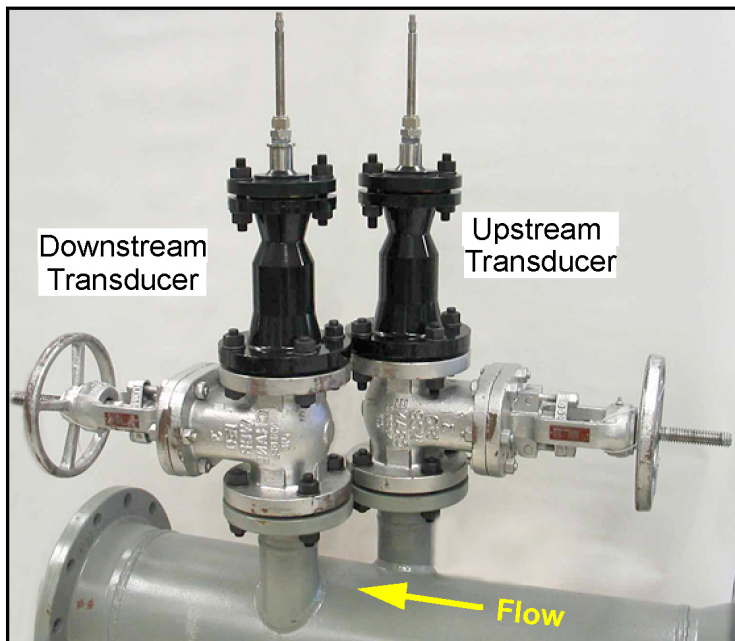

Figure 8: Extended Range Transducer Installation
1. Verify that the downstream transducer is located on the right to a person looking from the downstream end of the pipe (see Figure 8 below). Contact Panametrics if the port locations do not follow this convention.